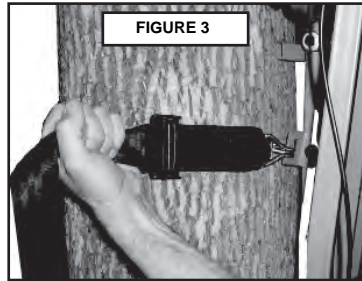

FIGURE 3
STEP 3: Pull the excess strap to secure the stand to the tree, as shown in Fig. 3. The stand should be tight to the tree as shown in Fig. 1.